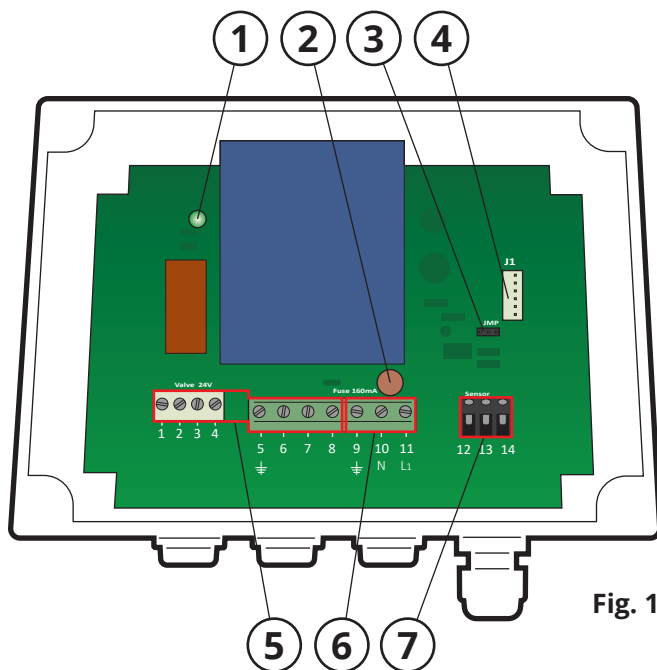

Fig. 1
S 200/24 is supplied with 230 VAC and converts the voltage to 24 VAC, which drives dampers and/ or contactors. The relay is activated by closing the circuit for the sensor terminal (7) or by a signal from an inductive sensor, for example pliers STG 200, see Fig. 1. When the relay is activated this is indicated by a diode (1).
The supply voltage is connected to terminals 9-11 (6), see Fig. 1. The supply cable for damper and/ or contactor is connected to terminals 1-8 (5). Start signal is connected to terminals 12 and 13 (7) for switches or 12, 13 and 14 (7) for sensors.